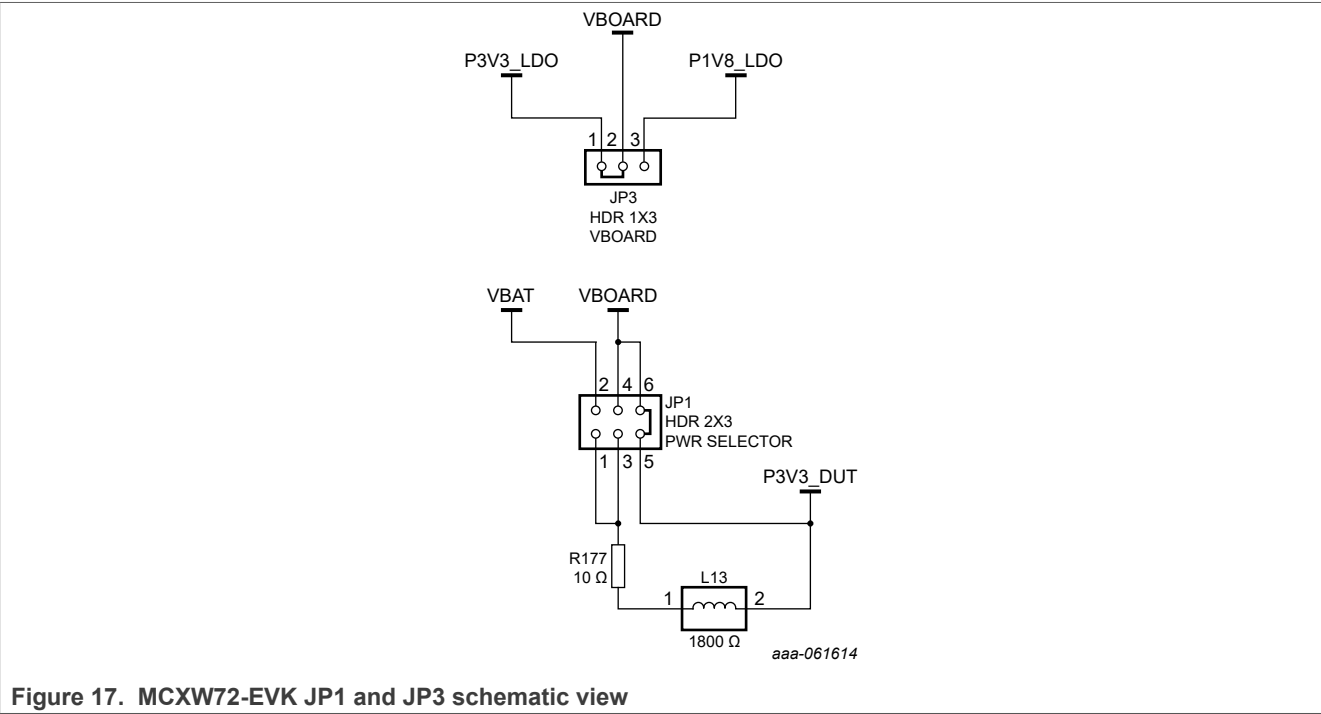

Figure 17. MCXW72-EVK JP1 and JP3 schematic view
6. Remove all jumper connections from JP1 and JP3 on the MCXW72-EVK board. Create a jumper connection between P3V3_LDO and VBOARD nodes for JP3. Create another jumper connection between P3V3_DUT and VBOARD nodes for JP1. Refer to Figure 17 for jumper schematic view.